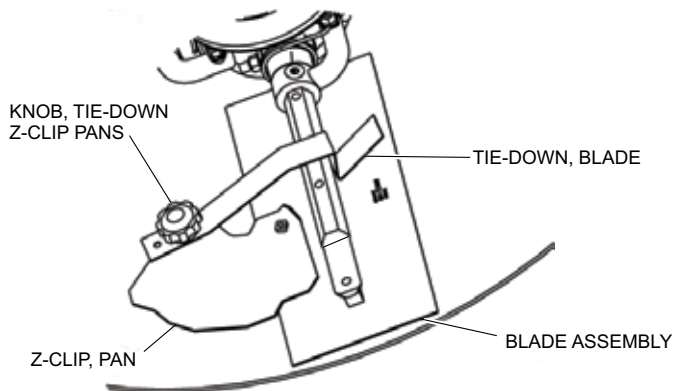

Figure 57. Z-Clip Finisher Pan Installation
Refer to Figure 57 when installing pans onto finisher blades.
3. Attach the blade tie-downs to the far side of the Z-Clip brackets with tie-down knobs as shown in Figure 57.